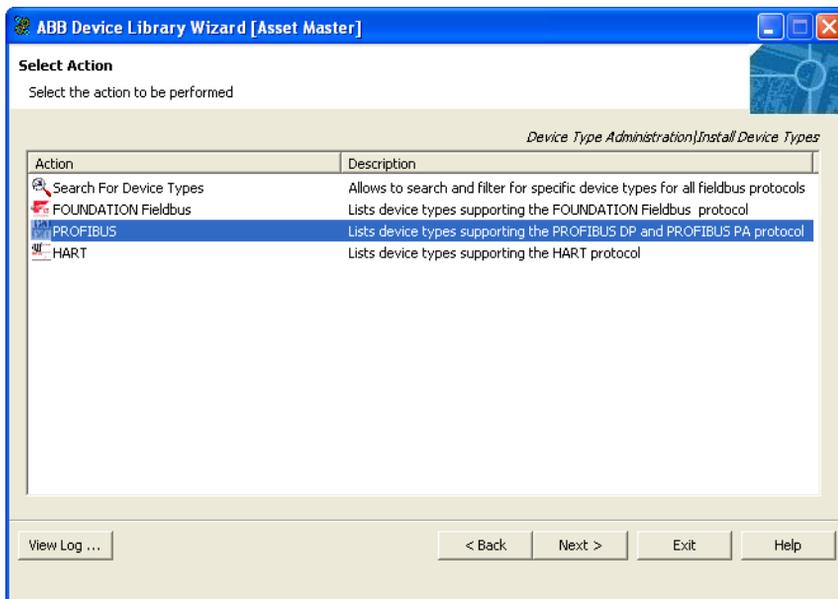

Figure 104. Select PROFIBUS Protocol
- The resulting screen, similar to the one shown in Figure 104, lists the Fieldbus Protocols. Select the protocol corresponding to the Device Object Type to be restored and click **Next**.